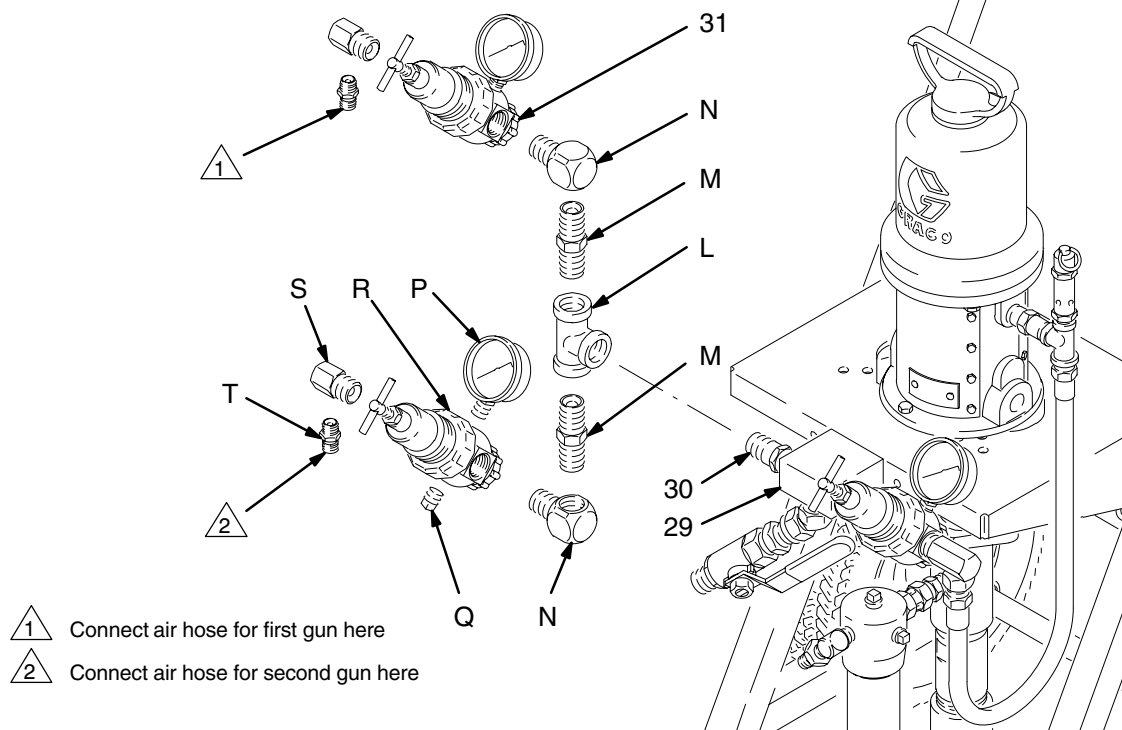

Fig. 6 Air Regulator Connections for a Two-Gun System (All Models)
Model 231158 (Refer to Figs. 6 and 7, and the Parts Drawing on page 16)
1. Remove the gun air regulator (31) from the nipple (30) coming off the air manifold (29). Do not remove any parts from the regulator. Save the regulator for use in step 4. See Fig. 6.
2. Install a 101180 Gauge (P) and 100509 Plug (Q) on a 104267 Air Regulator (R). Screw a 166999 Elbow (S) into the outlet port of this air regulator, and screw a 162453 Nipple (T) into the elbow.
3. Screw the branch of the 103475 Tee (L) onto the nipple (30) at the air manifold (29). Install a 156877 Nipple (M) in each open port of the tee. Screw a 158683 Elbow (N) onto each nipple.
4. Install the air regulator removed in step 1 onto one of the elbows (N). This is the air control for the first gun. Install the air regulator assembled in step 2 onto the other elbow (N), so both regulators are facing the same way. This is the air control for the second gun.
Model 231162 (Refer to Figs. 6 and 7, and the Parts Drawing on page 18)
Models 224629 and 231161 (Refer to Figs. 6 and 7, and the Parts Drawing on page 20)
4. Connect the air line of one of the hose kits (see Detail E) to the outlet nipple of one of the air regulators (see Fig. 6). Connect the air line of the second hose kit to the outlet nipple of the other air regulator.